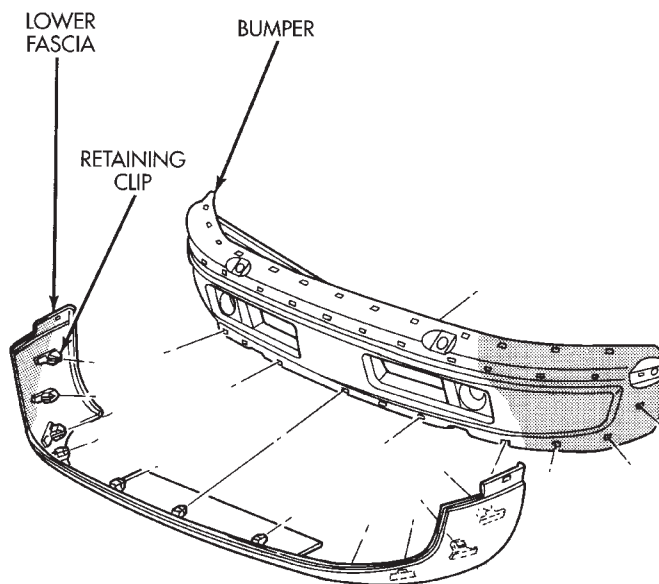

Fig. 3 Front Bumper Lower Fascia
- (1) Open hood.
- (2) Remove fasteners at side fender openings.
- (3) Remove lower air dam.
- (4) Disengage clips holding end of upper fascia to bumper face bar (Fig. 3).
- (5) Disengage clips holding lower fascia to bumper face bar.
- (6) Separate lower fascia from bumper.